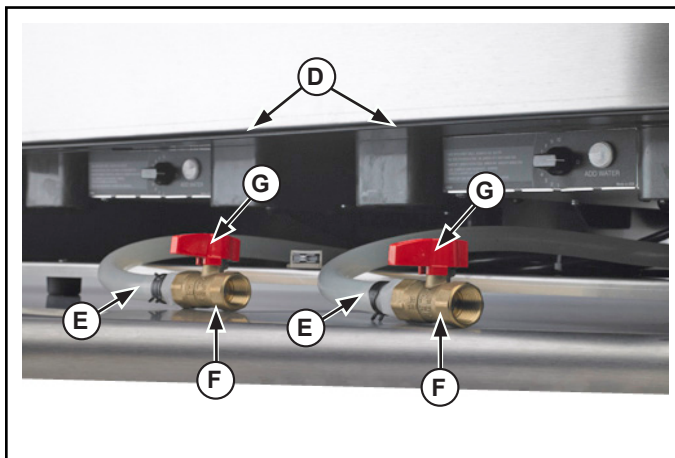

Figure 3. Cover, Drain Hose and Drain Valve
1. Open the access door (D) and turn the open/close lever (G) to the closed position. See Figure 3.